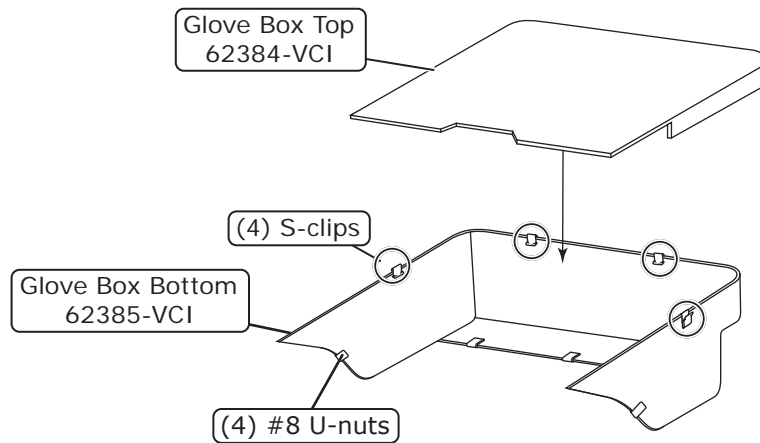

Figure 1
1. Install (4) S-clips on glove box bottom (See Figure 1, below)
2. Install (4) #8 U-nuts on glove box bottom (See Figure 1, below).